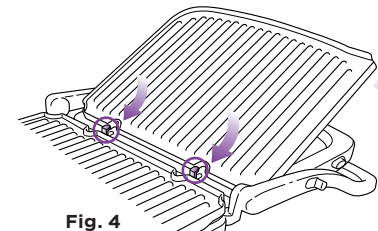

Fig. 4
- 3 Hold the upper or lower plate from the outside edge and arrange the two grooves on the inside edge to go under the two hooks on inside edge of the respective part. Then press the outside edge of the plate down until it clicks and locks into place. (Fig. 4)